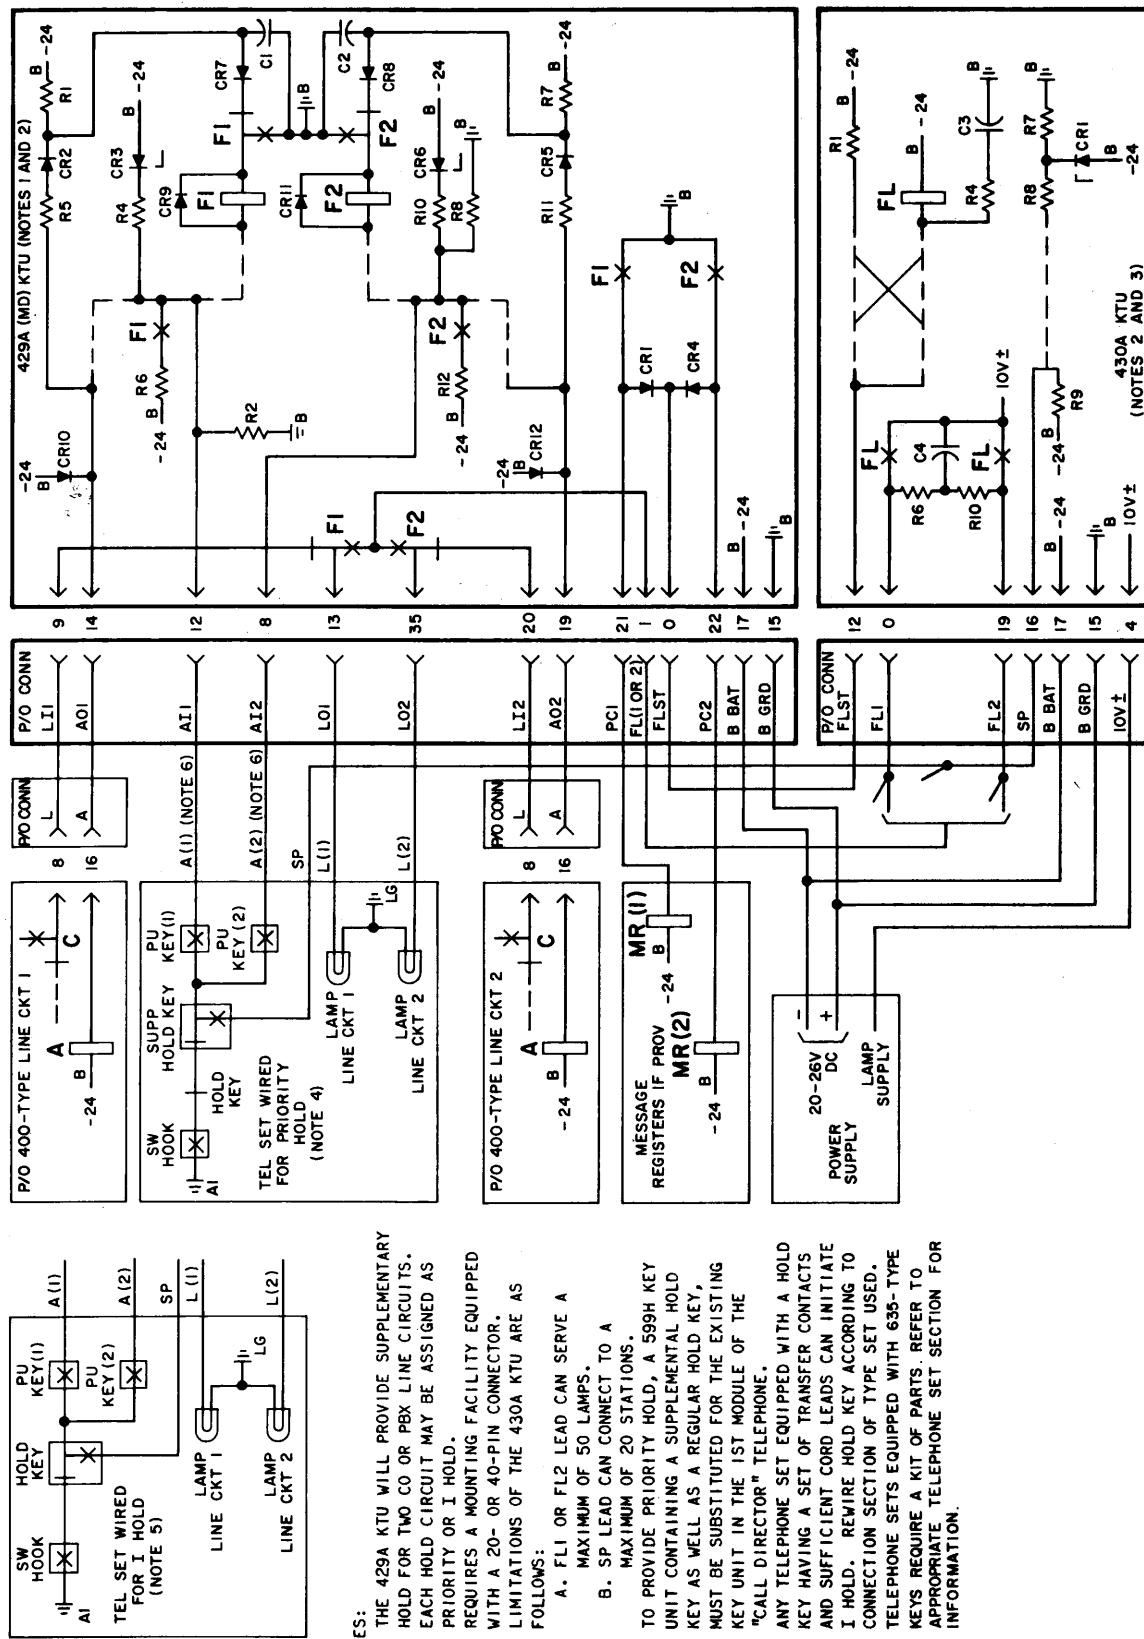

Fig. 8—Condensed Functional Schematic of 429A KTU (MD) (Supplementary Hold Detector Circuit) and 430A KTU (Flutter Generator Circuit)
F. 429-Type, 429B (MD), and 429C KTUs (Supplementary Hold Detector Circuit) and 430A KTU (Flutter Generator Circuit)
2.07 The 429-type and 430A KTUs (Fig. 8 and 9) are 4-inch, 40- and 20-contact units which replace the 406A and 408A KTUs, respectively.